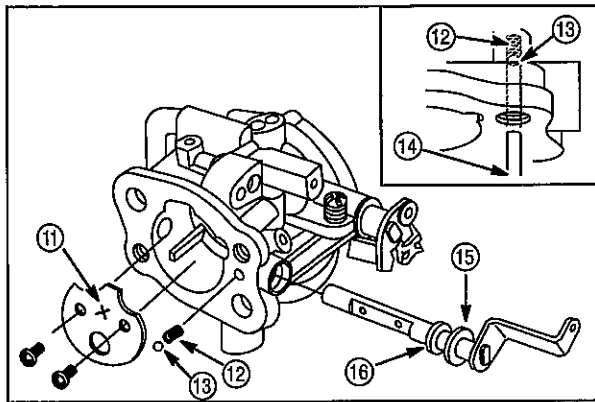

Fig. 53
7. Install new choke shaft seal (16) with sealing lip out, **Fig. 53**.
8. Assemble washer (15) onto choke shaft.
9. Insert spring (12) and check ball (13) in to spring pocket. Compress with a small round punch (14).
10. Push choke shaft into hole until ball engages groove in choke shaft, **inset, Fig. 53**.
11. Install choke plate (11) as shown.